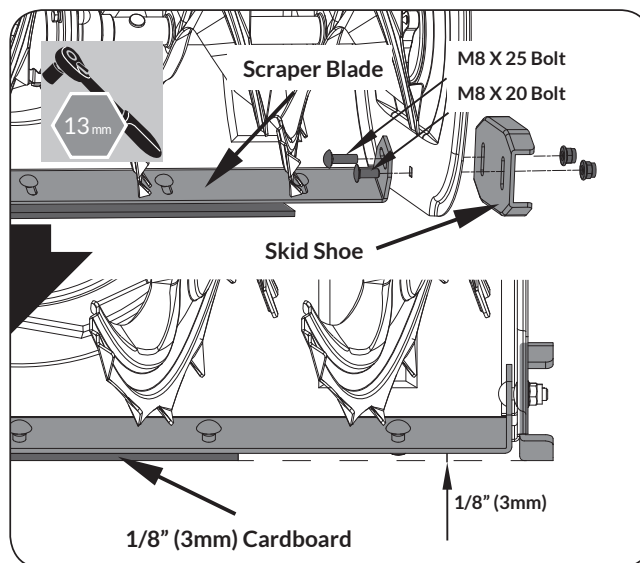

Figure 8
3. Attach the skid shoes to the sides of auger housing with the bolts and nuts. The shorter M8X20 bolts should be in the front holes while the longer M8X25 bolts in the rear holes. Move the skid shoes down as far as possible. Be sure both skid shoes are adjusted evenly. Tighten securely. (See **Figure 8**)